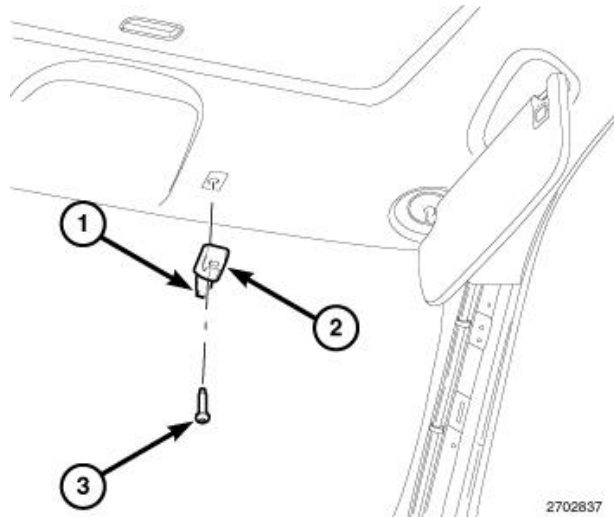

Figure 8 – Inboard Sun Visor Fasteners
- 13. Remove both inboard sun visor fasteners (3) and supports (2) (Figure 8).